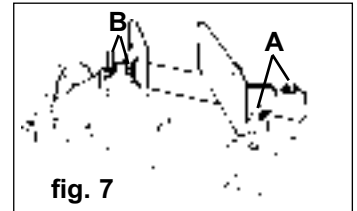

fig. 7
- 5.6.3. If adjustment is necessary, loosen bolts (fig.7.A) holding the vice and adjust. Retighten bolts.
- 5.9.1. Slacken the bolts (fig.7.A) clamping the fixed vice.
- 5.9.3. Loosen the bolts (fig.7.B) on the moveable vice and turn it to match the angle of the fixed vice. Tighten bolts when vice faces are parallel.